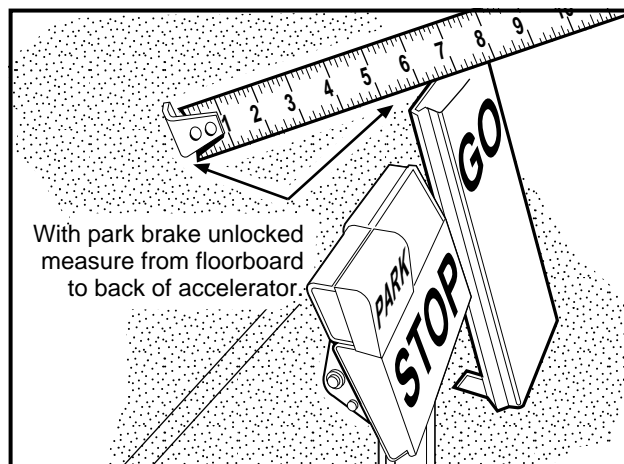

Figure 5-12 Measure Accelerator Pedal Height
- 2.3. With the park brake unlocked, measure and note the distance from the top of the accelerator pedal to the floorboard, and then lock the park brake (**Figure 5-12, Page 5-9**).